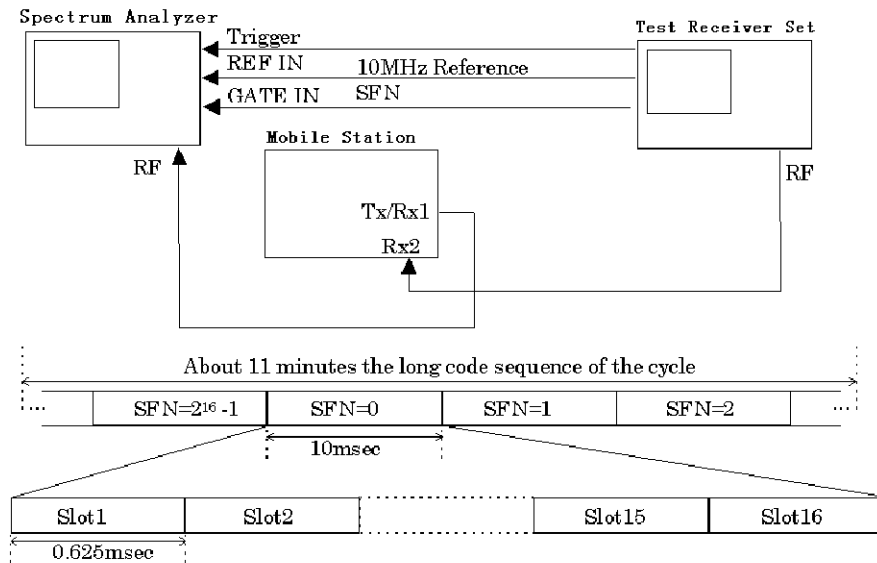

Figure 2-18 Setup for the measurement of the W-CDMA signal (MS Mode:SFN Signal)
1. Connect the unit under test as shown in Figure 2-18.